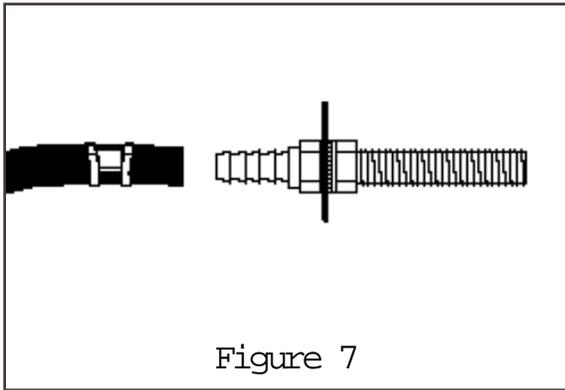

Figure 7
K. Slide clamp onto the air line and push air line onto the fitting, covering all the barbs. With pliers slide the clamp forward until it fully covers the barbed section (Figure 7).
I. Slide clamp onto the air line and push air line onto the stem, covering all the barbs. With pliers slide the clamp forward until it fully covers the barbed section (Figure 7).